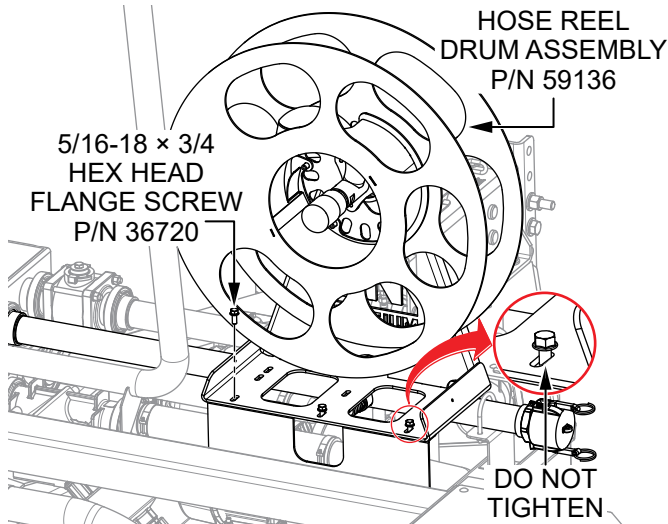

Figure 6. Install Three 5/16-18 × 3/4 Hex Head Flange Screws
5. Install the **three 5/16-18 × 3/4 hex head flange screws (P/N 36720)** as shown in Figure 6, but **DO NOT** fully tighten them yet. Leave the screws loose enough to allow the **hose reel drum assembly (P/N 59136)** to slide back and forth.